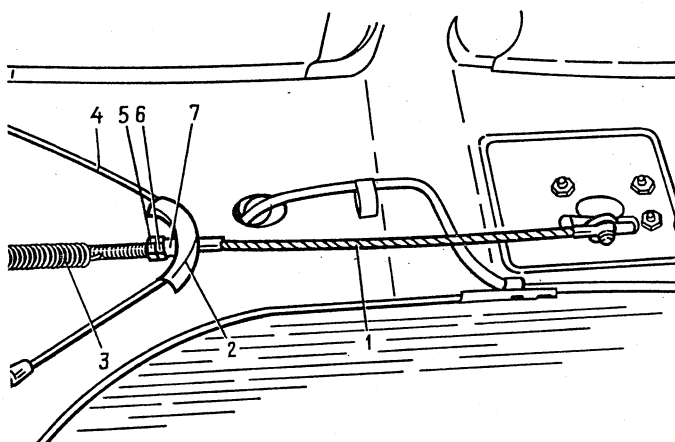

Fig. 6-4. Parking Brake Controls:
- loosen lock nut 5 (Fig.6-4) of the tensioning device and keep turning in adjusting nut 6 to tension the cable until the rear wheels are braked and cannot be turned by hand;